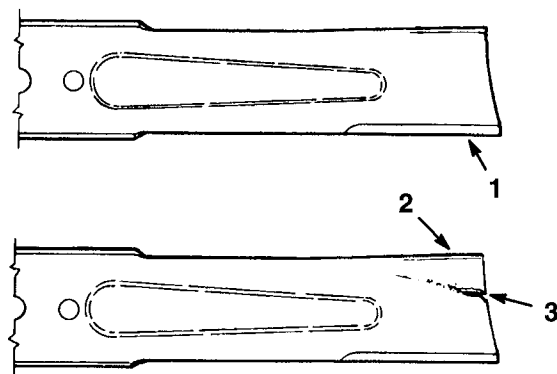

Figure 33
2. Inspect the cutting edges (Fig. 33). If the edges are not sharp or have nicks, remove the blade(s) and sharpen them; refer to Sharpening the Blade(s), page 33.
3. Inspect the blade(s), especially the curved area (Fig. 33). If you notice any damage, wear, or a slot forming in this area (Fig. 33), immediately install a new blade.